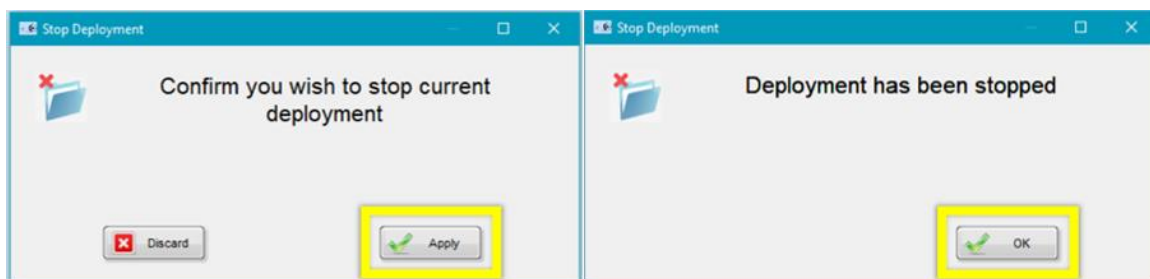

Figure 11. Confirm and Acknowledge Deployment is being Stopped
2. A **Stop Deployment** dialogue box will appear asking for confirmation and acknowledgement to stop data collection (Figure 11). Click **"Apply"** to confirm and **"OK"** to acknowledge and proceed to the next section.